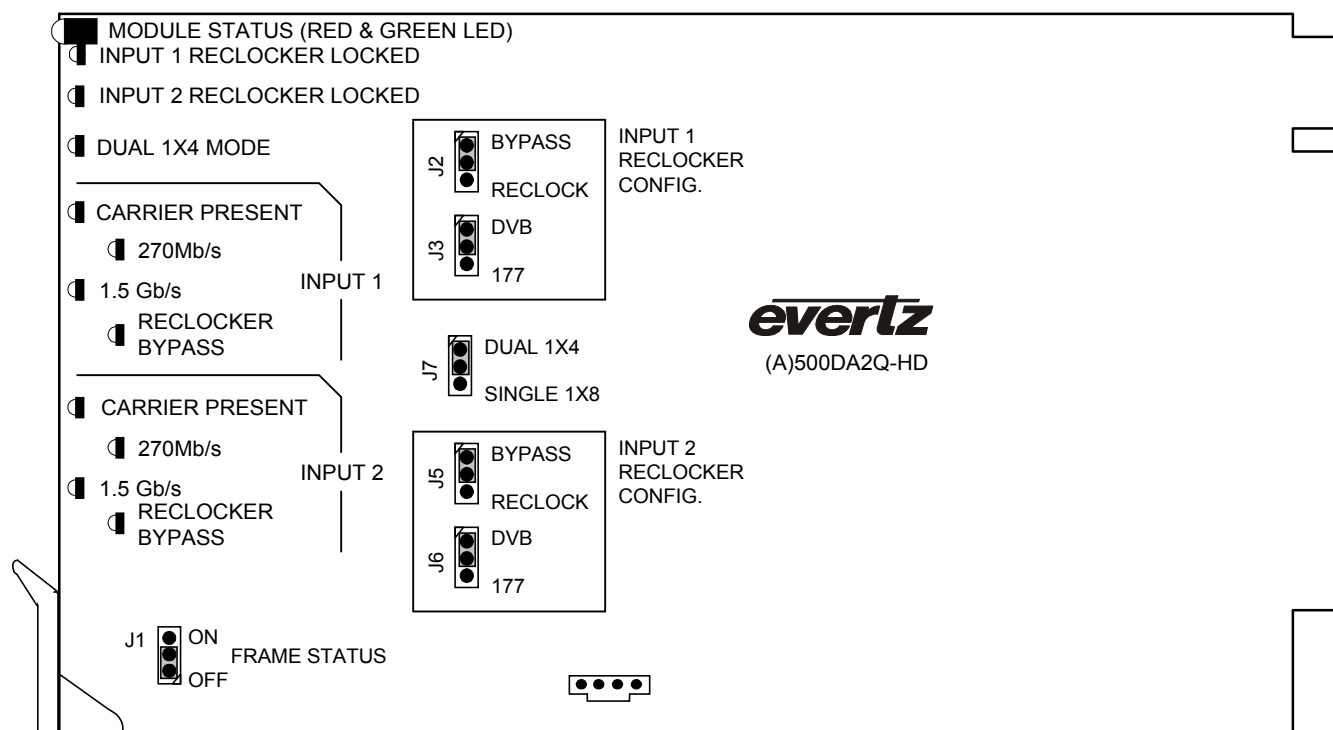

Figure 3: LED and Jumper Locations
OUT 1B to 4B These four BNC connectors can be configured to output reclocked serial component video from IN (A) when jumper J7 is set to SINGLE 1x8 mode. When jumper J7 is set to DUAL 1x4 mode, these connectors output reclocked serial component video from IN (B) See Figure 3 for the location of J7.